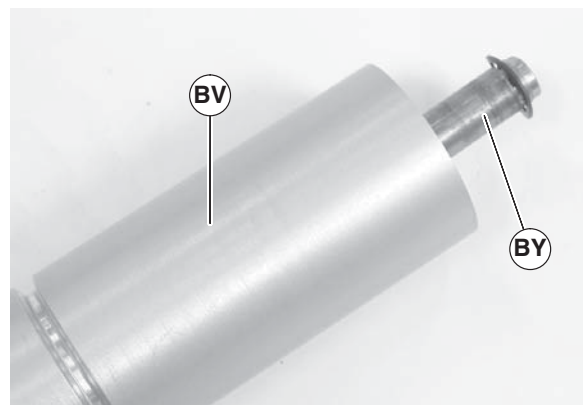

Figure 53
6. Slide the shaft assembly (Figure 53, item BY) out of the pulley (BV).